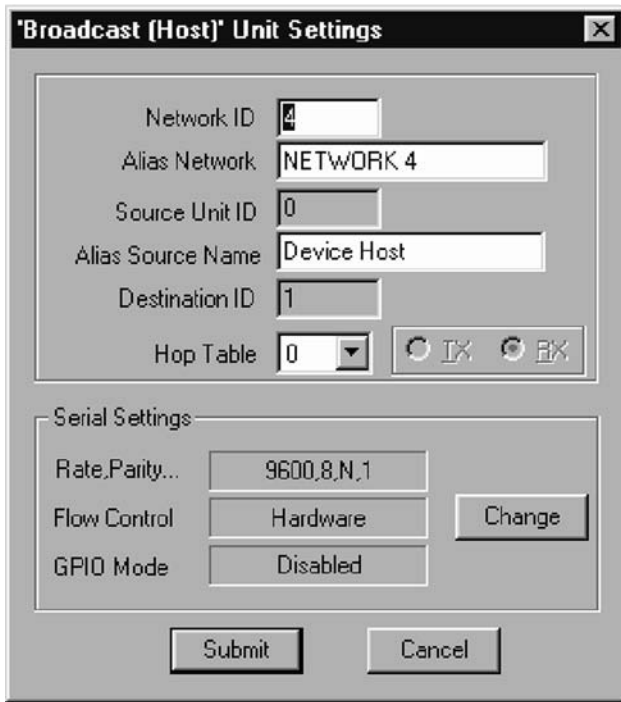

Fig. 6 — Host to Broadcast Set Up
- f. Enter the information as shown in the dialog box below. See Fig. 6.